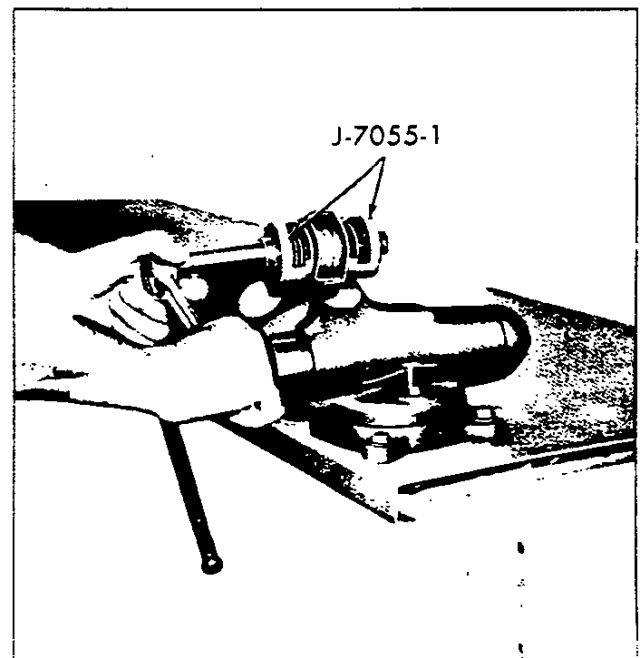

Fig. 27—Installing Bushings
5. Install Tool J-7055-1 as shown in Figure 27 and press bushings into place.